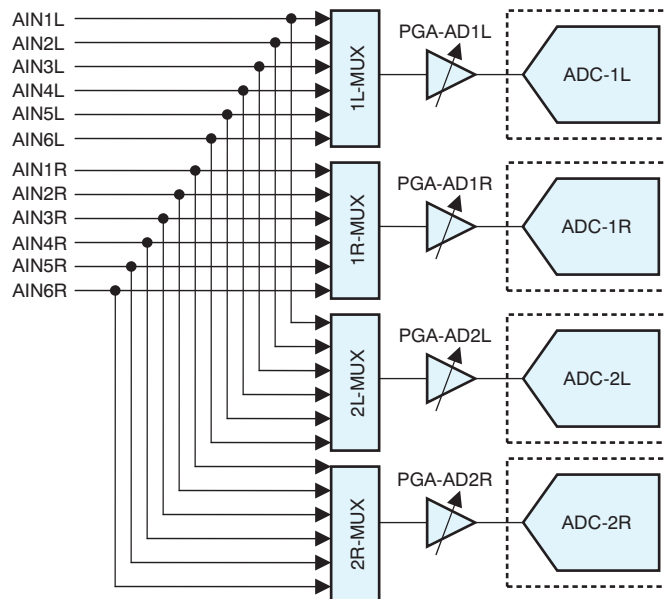

Figure 28. Analog Inputs
The PCM5310 includes a four-channel analog-to-digital converter (ADC) with a programmable gain amplifier (PGA) and six stereo analog inputs with a 2-V_{RMS} input. Pins AIN1L/1R to AIN6L/6R are connected to the ADC left (L) or right (R) channel through the analog multiplexer (mux) and PGA, as shown in Figure 28. If the analog input voltage level is less than 2 V_{RMS} , it can be amplified by using the PGA. The gain level can be set to 9 dB, 6 dB, or 3 dB. The descriptions for the analog input registers are shown in Table 1.